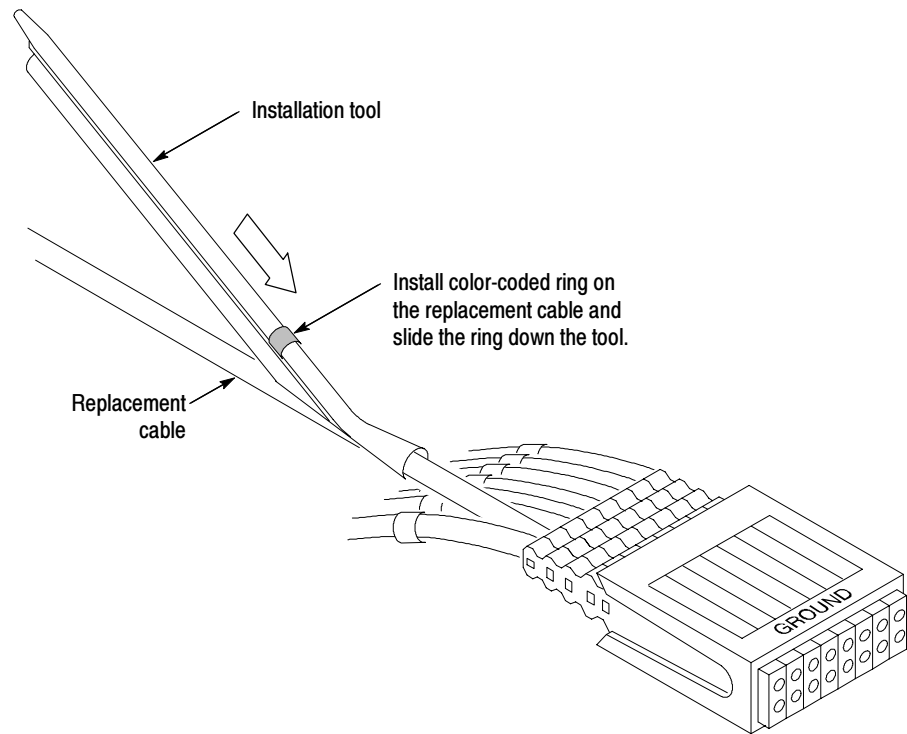

Figure 15: Installing the color-coded ring
15. Refer to Figure 15 and place the installation tool over the replacement podlet cable as shown. Slide the color-coded ring down the installation tool onto the replacement cable. Position the ring so that it is in the same relative position as the other color-coded rings (approximately 0.5-inch from the podlet).